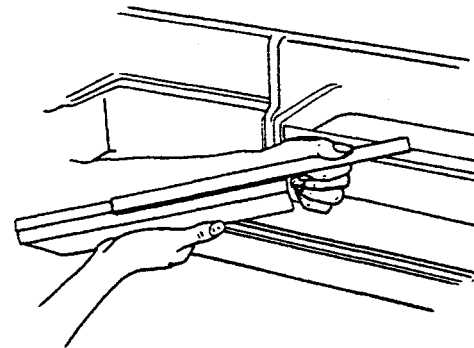

Figure 24
- Slide front trim off shelf to right or left. See Figure 24.